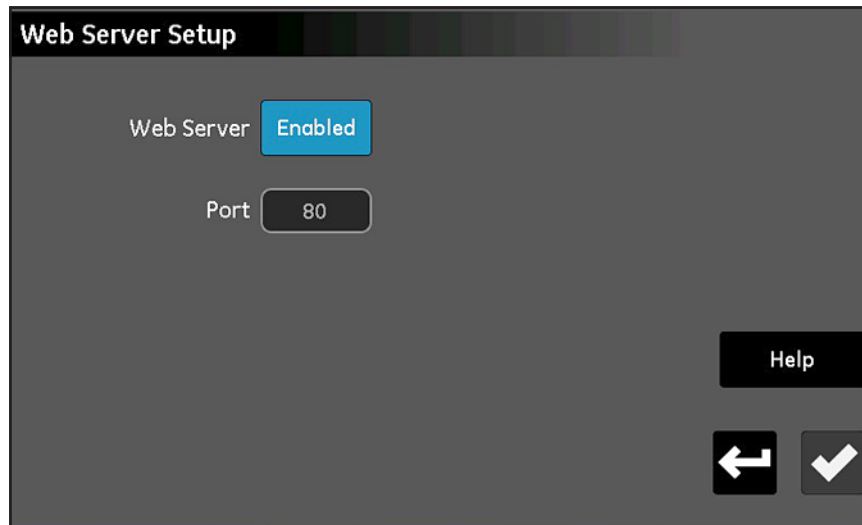

Figure 73: Web Server Setup Screen
1. From the *Configuration Menu* screen (see *Figure 52 on page 59*), tap the **Web Server** button to open a *Web Server Setup* screen similar to *Figure 73* below.